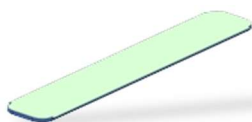

Figure 3 : Connectors' cover
- A Connectors' cover Figure 3 to discreetly hide the cables and connectors from the view of customers.